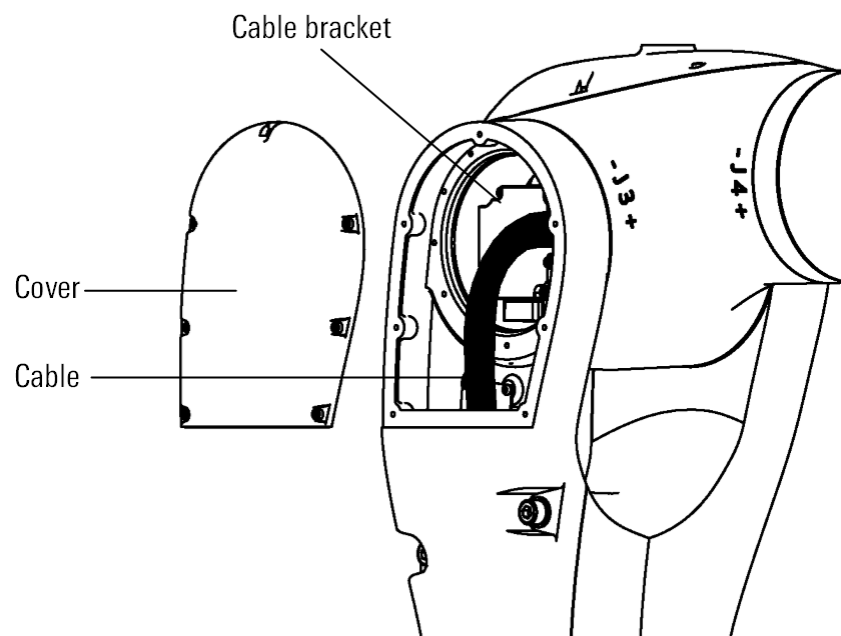

Figure 9-3 Maintenance of internal cables of the upper arm
- Step1. Remove the cover, as shown in Figure 9-3.